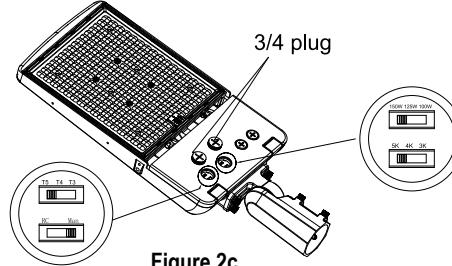

Figure 2c
1. Remove both 3/4 NPT plug on the left side of the fixture. Adjust the switch with options "RC" and "Man" to the "Man" (Manual Control) setting. Adjust the power and CCT to the desired settings using the switch in the right KO hole. Adjust the light distribution to the desired setting using the switch in the left KO hole. (see Fig. 2c)